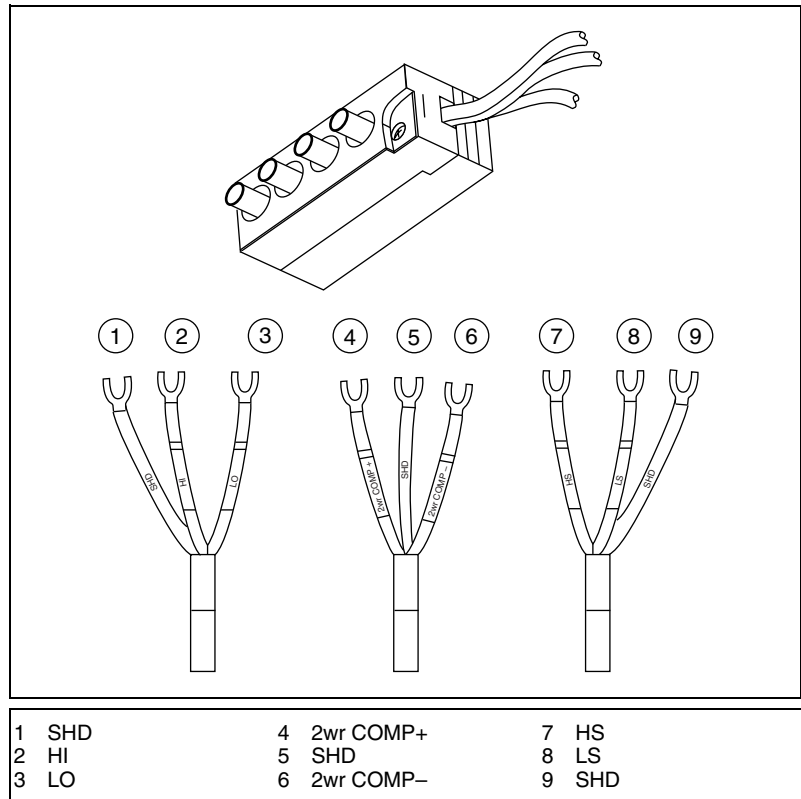

Figure 3. NI Calibration Cable Assembly
22. Connect the calibration cable assembly with the connector block plugged into the NI 4070, and with the spade lugs connected to the appropriate calibrator binding posts. Figure 3 shows the calibrator cable assembly. Table 1 lists the assignments of the spade lugs to the corresponding calibrator binding posts.